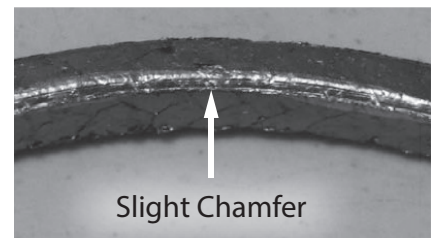

Figure 124 - Properly orient graphite gasket
**26** Locate new graphite gasket (100371052) provided in kit. Orient gasket so side with slight chamfer is facing the groove in the burner door (Figure 124). Carefully install new graphite gasket to groove in burner door. Confirm gasket sits flush in groove.